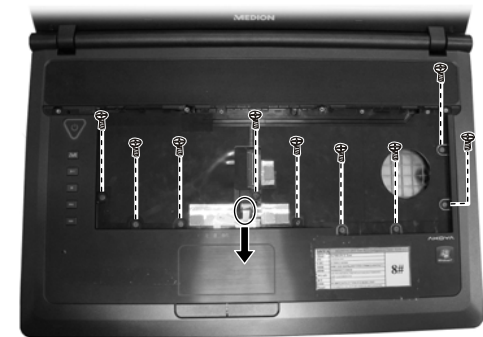

Figure 2-14 Remove the top cover
3. Turn over the unit, remove nine screws and disconnect the touch pad cable, then remove the top cover. (Figure 2-14)